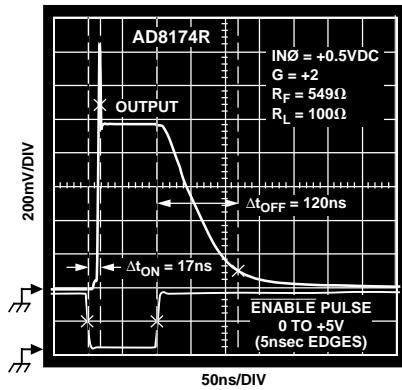

Figure 5. Enable and Disable Switching Characteristics
- Shutdown (SD) and $\overline{\text{ENABLE}}$ pins are grounded (AD8174). IN0 (or IN2) = +0.5 V dc, IN1 (or IN3) = -0.5 V dc. SELECT (A0 or A1 for AD8174) input is driven with 0 V to +5 V pulse. Measure transition time from 50% of SELECT (A0 or A1) input value (+2.5 V) and 10% (or 90%) of the total output voltage transition from IN0 (or IN2) channel voltage (+0.5 V) to IN1 (or IN3 = -0.5 V) or vice versa.
- AD8174 only. Shutdown (SD) pin is grounded. $\overline{\text{ENABLE}}$ pin is driven with 0 V to +5 V pulse (5 ns rise and fall times). State of A0 and A1 logic inputs determines which channel is activated (i.e., if A0 = Logic 0 and A1 = Logic 1, then IN2 input is selected). Set IN0 (or IN2) = +0.5 V dc, IN1 (or IN3) = -0.5 V dc, and measure transition time from 50% of $\overline{\text{ENABLE}}$ pulse (+2.5 V) to 90% of the total output voltage change. In Figure 5, Δt_{OFF} is the disable time, Δt_{ON} is the enable time.